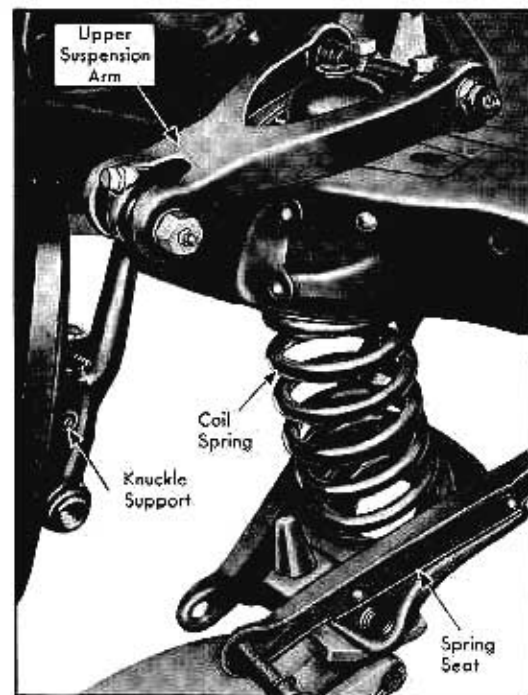

Fig. 6-24 Install Front Spring
5. Place jack under lower suspension arm and raise arm into position. Guide spring into position on insulator with tapered end in formed depression, Fig. 6-24.